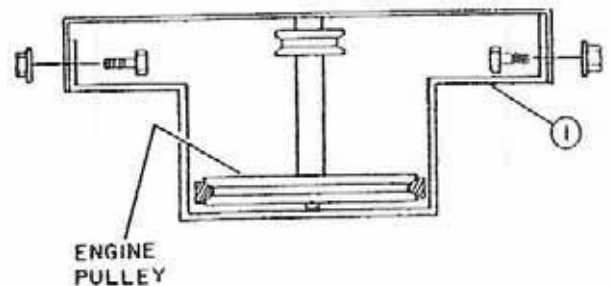

FIGURE 15
- e) On tractor with manual PTO clutch: Remove the belt guide on the tractor engine attachment drive pulley and install the bent flatbar drive pulley guide (fig. 15, item 1) inside the tractor frame. On the left hand side, use the tractor hole 7 11/16" or 10 1/4" from the center of the front axle. The left hand side of the guide should be higher. On the right side, use the hole 8 5/16" or 8 7/8" rear of the center of the front axle. Secure tightly with two 3/8 X 3/4" bolts and nuts. Tighten securely.